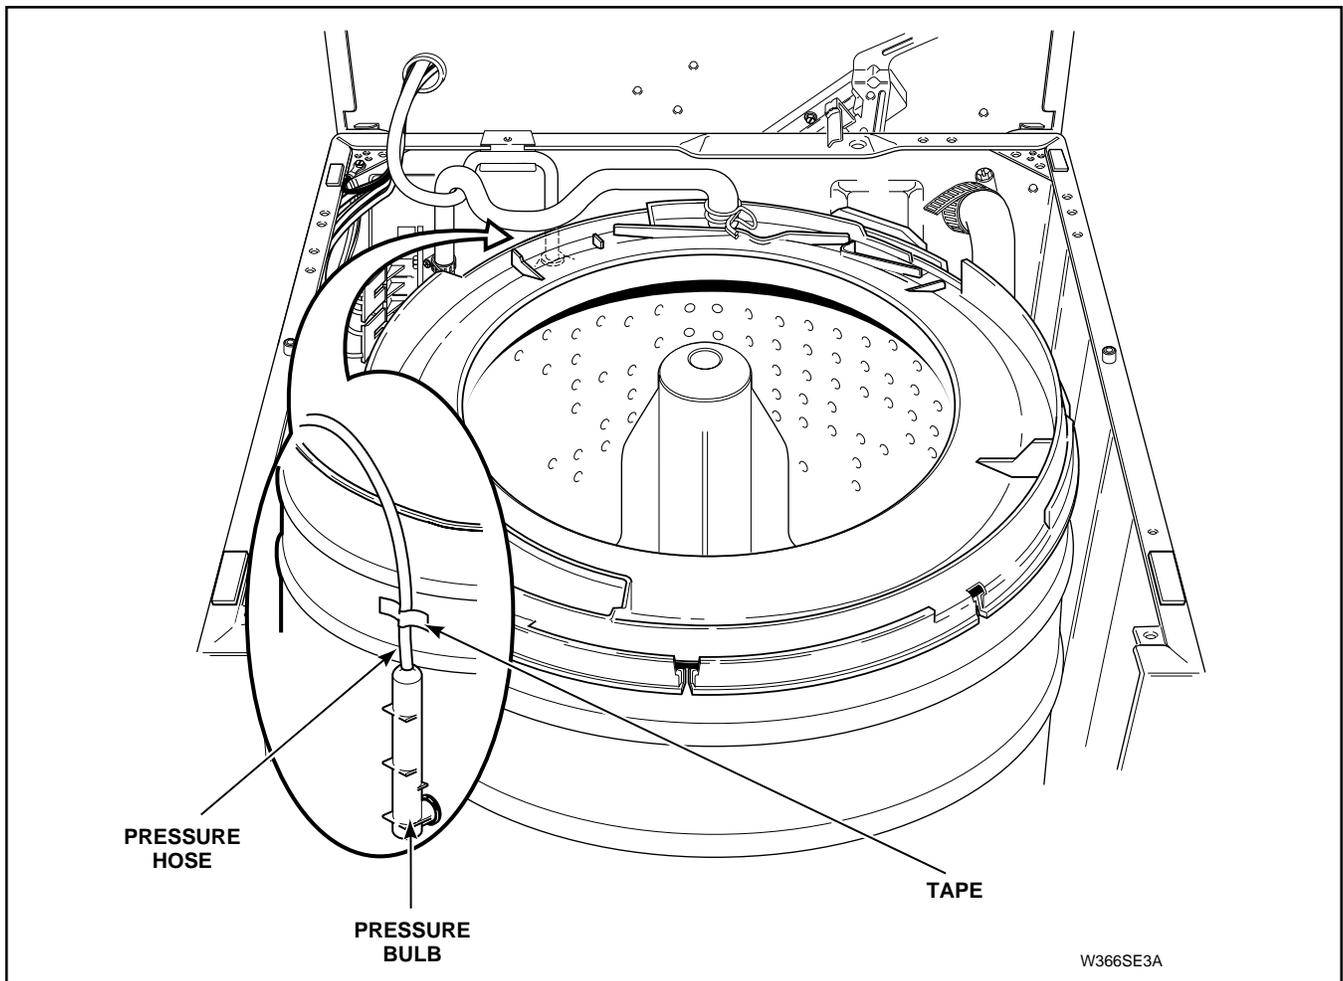

Figure 48
- Route the pressure hose as shown in *Figure 48*. Then route pressure hose back up through hole in cabinet top.